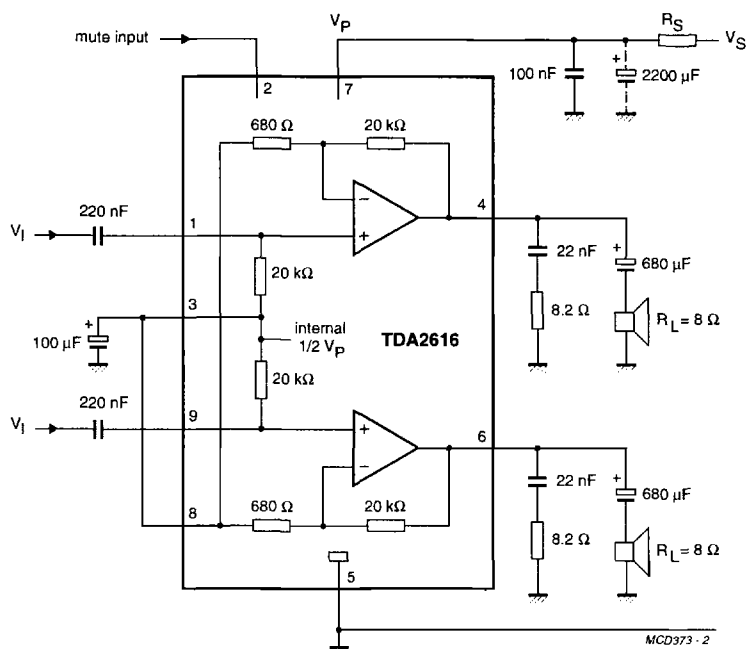

Fig.5 Test and application circuit with asymmetrical power supply.
- $V_P = 24 \text{ V}$; $R_L = 8 \Omega$; $T_{amb} = 25^\circ\text{C}$; $f = 1 \text{ kHz}$; asymmetrical power supply $I_{MUTE} < 30 \mu\text{A}$. See Fig.5